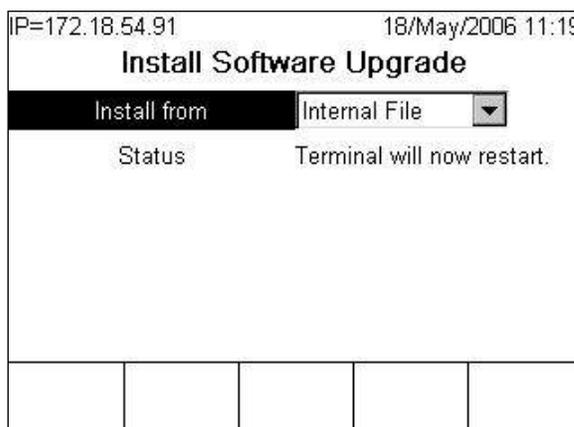

Figure 4-4: Firmware Upgrade in Progress
- If the IND780 finds the files in the UPGRADE directory, the screen shown in Figure 4-4 appears briefly, and the terminal restarts.